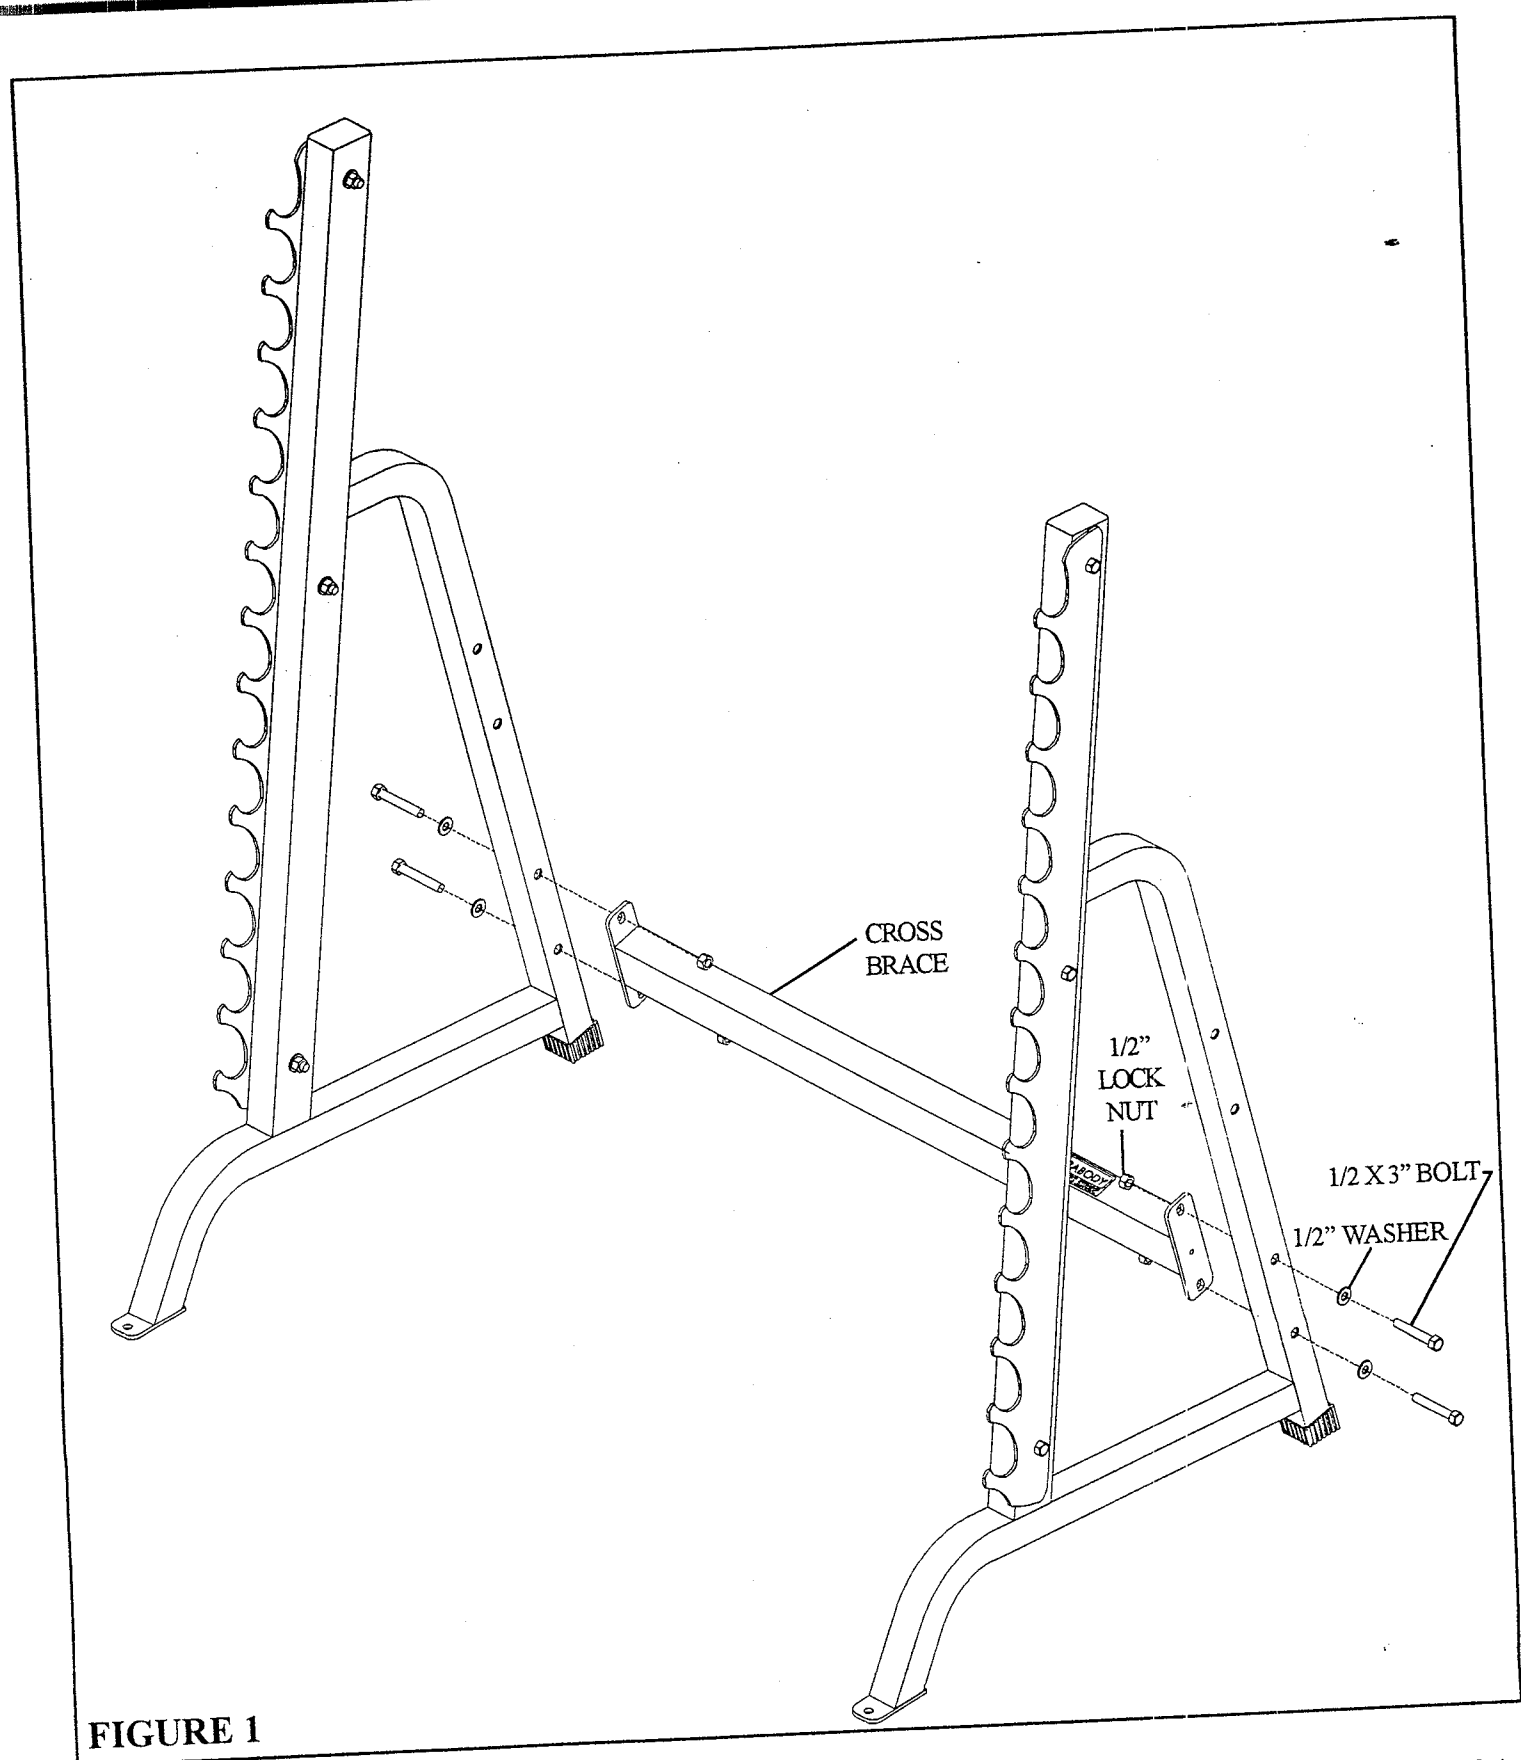

FIGURE 1
- Remove and discard the four 1/2 X 3" BOLTS, four 1/2" WASHERS, and four 1/2" LOCK NUTS from the CROSS BRACE as shown in FIGURE 1.